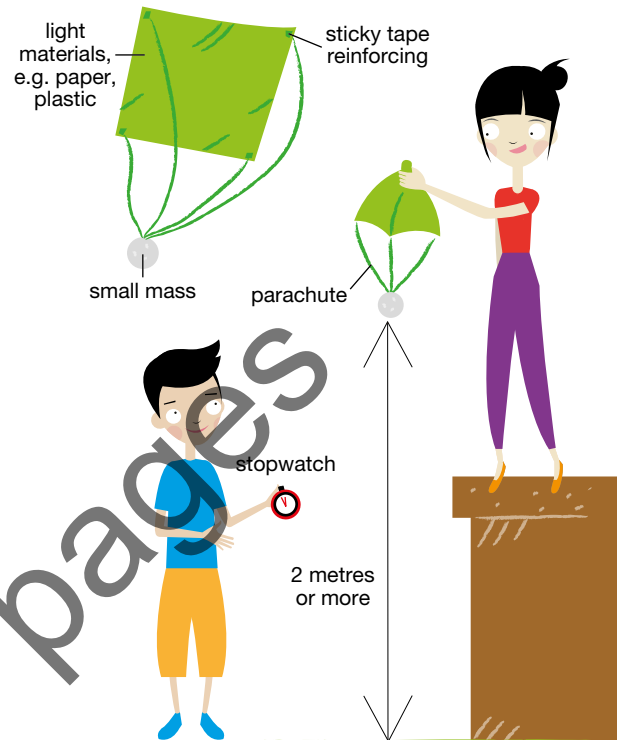

FIGURE 1.4.11
- When constructing your chutes, reinforce the string holes with patches of sticky tape like the one shown in Figure 1.4.11.